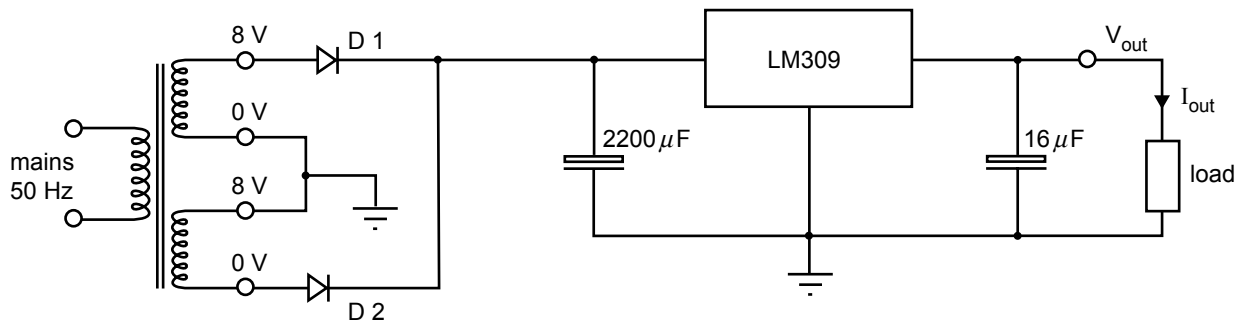

Figure 3
A linear power supply using the LM309 regulator is shown in Figure 3.
- c. Refer to Figure 3.
Calculate the peak level of voltage across the $2200\ \mu\text{F}$ capacitor in Figure 3.